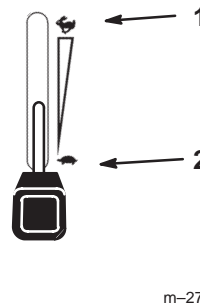

Figure 17
- Move the throttle control to the fast position before starting a cold engine (Fig. 17).
- Push the PTO to off (Fig. 17).
- Move the throttle lever midway between the slow and fast positions (Fig. 17).